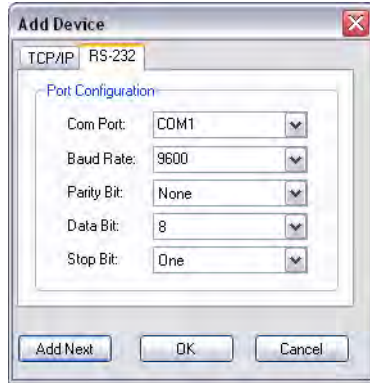

Figure 22. Add Device Screen
- If you have not previously updated firmware for the FOXBOX unit before, on the Add Device screen (see figure 22), select the **RS - 232** tab.